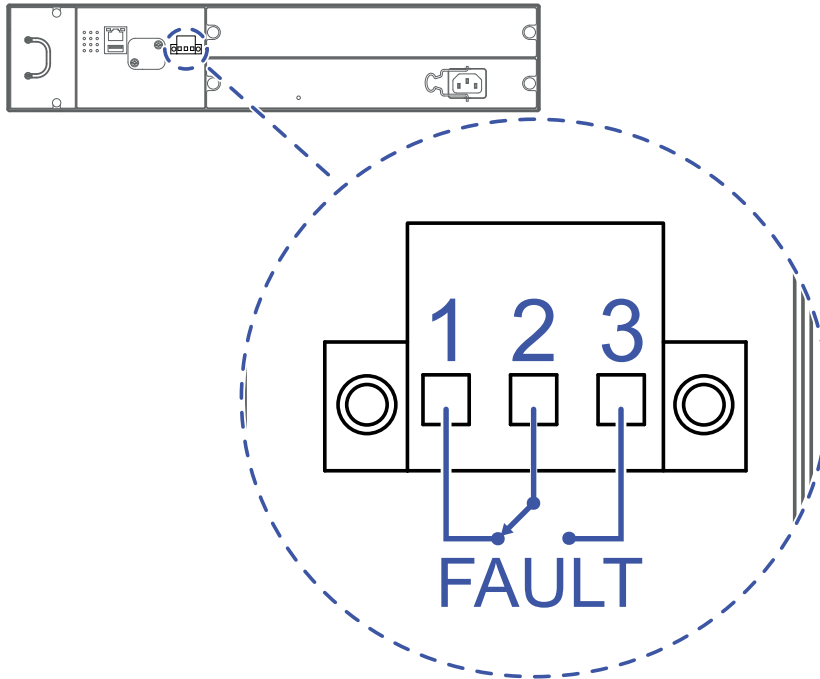

Figure 8: Signal contact: 3-pin terminal block with screw lock; position on the device (rear side of the device)
The signal contact is a potential-free changeover contact. If the device is not connected to a power supply, the changeover contact (2) is connected to the normally closed contact (1) (see figure 8).